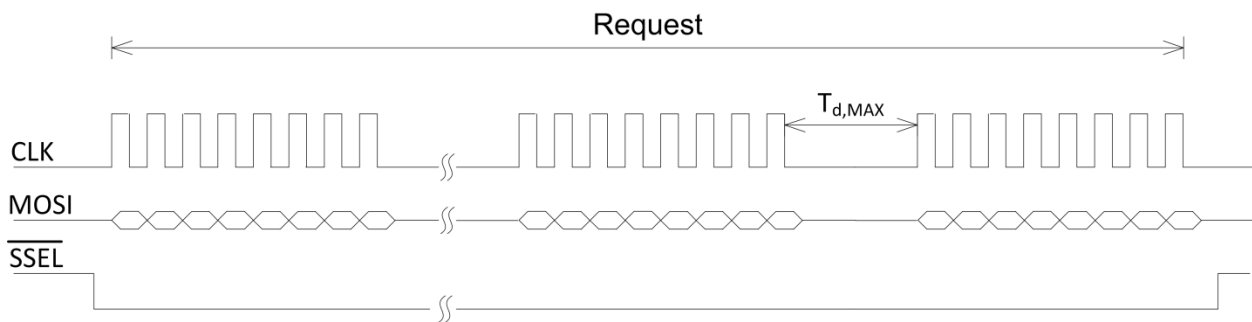

Figure 9-5: SPI Request Timing
- For the request data on the MOSI line, the host software should keep the SSEL pin at steady state low as shown in Figure 9-5 below.